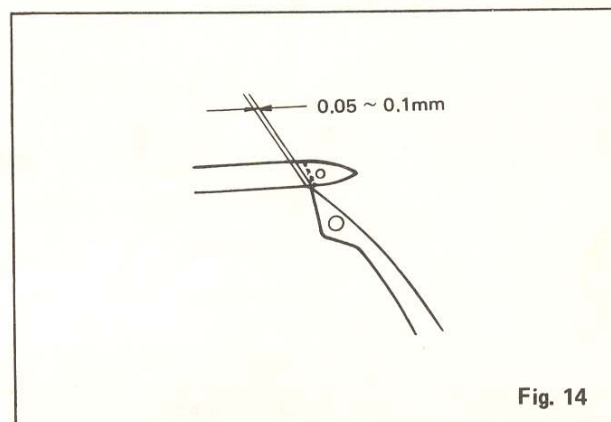

Fig. 14
- Turn the pulley toward you to bring the left and right hand loopers to the position shown in Fig. 14 and adjust the right hand looper cam to provide clearance shown in Fig. 14. Then tighten the right hand looper cam set screw.